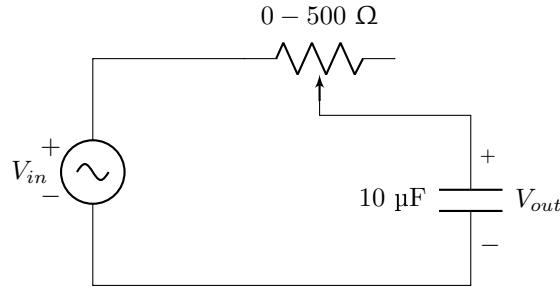

Figure 5.3: Lab # 5 Breadboard Connection
- Build the circuit in Figure 5.3. **Using the waveforms of both V_{in} and V_{out} , record what happens to the phase shift, $\Delta\phi$, as the resistance of the potentiometer changes.**